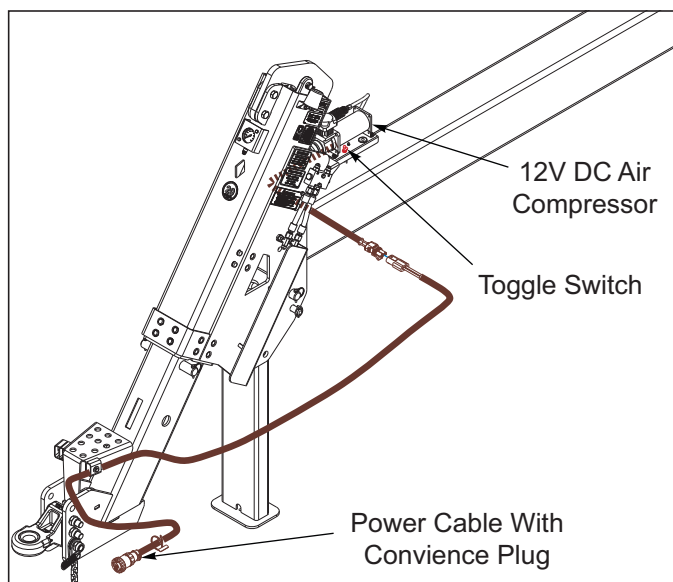

Figure 4-7: Air Compressor Connection
1. The 5532 drill is equipped with a heavy-duty electric air compressor **See Figure 4-7** to charge and adjust the pressure in the opener air springs.